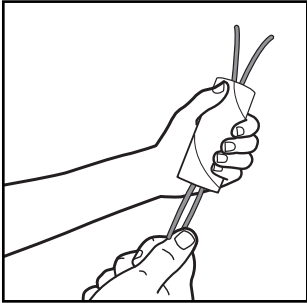

figure 11
- Insert the wire into the cylinder and thread through the other end. (fig. 11)